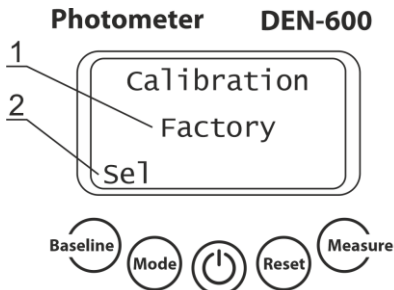

Figure 5. User and factory calibration selection.
- 5.7.1 **Restoring to McF factory calibration settings (figure 5).** Enter user calibration regime by pressing **Baseline** key 5 times in **McF** measurement mode, press **Mode** key 2 times, then select between User and Factory calibration settings, by pressing Sel (**Baseline** key, fig. 5/2), to exit the menu press **Reset** key.